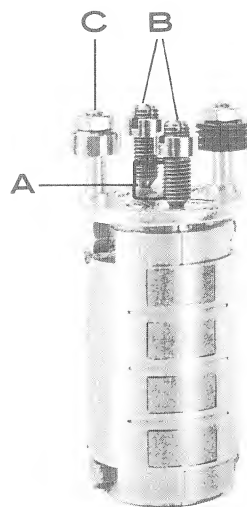

Fig. 6
- Pos. A. The nut in the centre of the head marked "A" in figure 6 secures the erase head to its adjustable base plate.